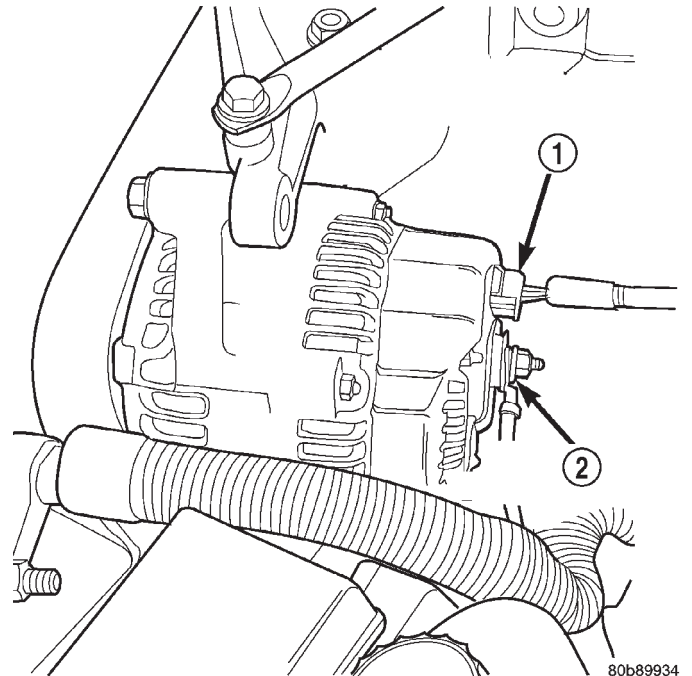

Fig. 1 Generator Electrical
- (1) Disconnect negative battery cable.
- (2) Remove generator drive belt. Refer to Group 7, Cooling System for procedure.
- (3) Remove the nut securing battery output cable to B+ terminal at rear of generator (Fig. 1).
- (4) Unplug field terminal connector at rear of generator (Fig. 1).